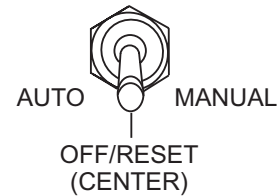

Figure 60. Auto Start/Stop Switch (OFF)
1. Place the **Auto Start/Stop switch** (Figure 60) in the **OFF/RESET** position.